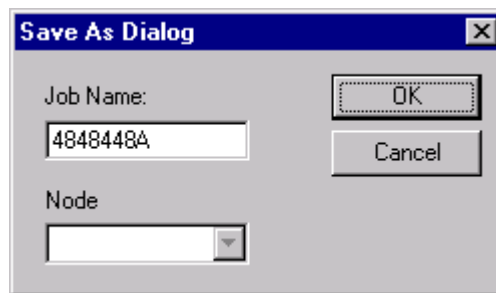

Figure 3-8. Save As Dialog
1. Click the **File** menu and choose **Save As**. A cascade menu appears to the right, containing the **Copy** and **Rename** choices. Click on the appropriate choice, using the following guidelines. A dialog similar to the one shown in Figure 3-8 appears.